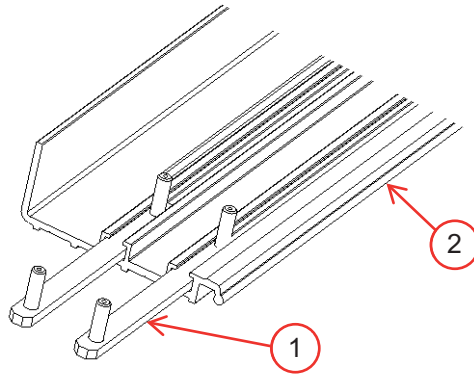

Figure 8: Sliders (1) in the two tracks on the base (2).
2. Each part attaches to the base with one or two “sliders” (Figure 8), which fit into the tracks on the base. **Remove the nuts from all sliders.**